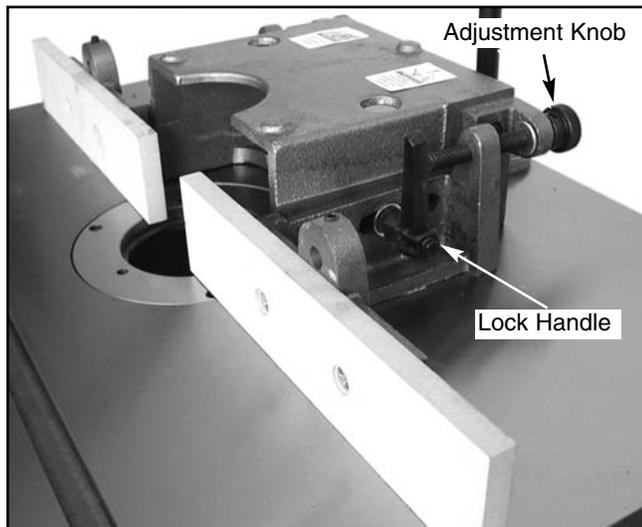

Figure 19. Location of fence locking handles. (Safety Guard removed for clarity.)
1. Loosen the locking handles that hold the fences in place. See Figure 19.